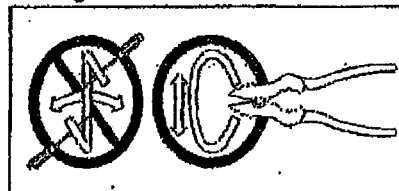

Fig.3
CONNECTING THE WIRES (Fig.3)
1. At this point, connect the electrical wires as shown in Fig.3 making sure all wire nuts are secured. You may have to wrap the connections with electrical tape. If your outlet has a ground wire (green or bare copper), connect fixture's ground wire to it. Otherwise connect fixture's ground wire directly to the junction box.